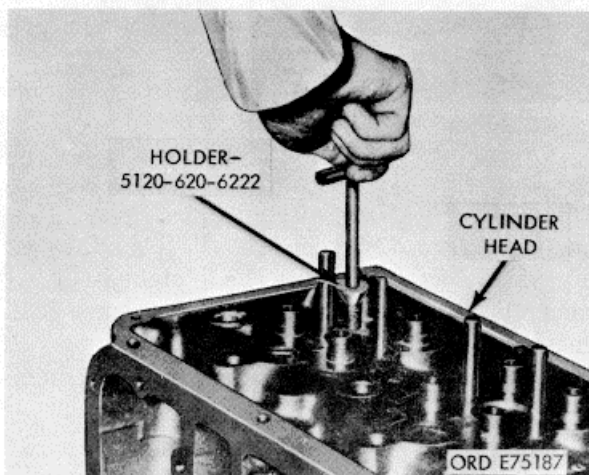

Figure 3-30. Injector sleeve holder installation.
(a) Install injector sleeve holder (15, fig. B-28) on a scrap injector and cup assembly into each injector sleeve. Tighten sleeve holders to 10/12 foot-pounds torque or injector capscrews to 30/35 foot-pounds torque as shown in figure 3-30.
(2) Remove injector sleeve driver and install injector sleeve holder (fig. 3-30).